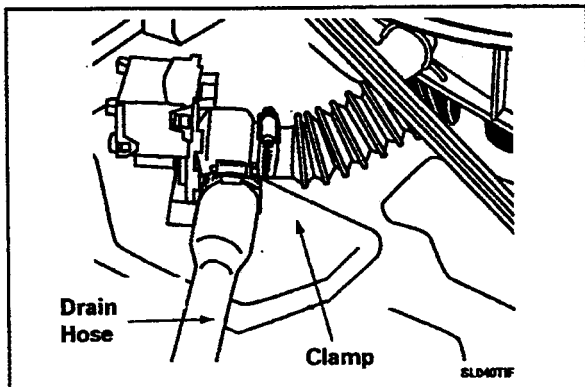

Figure 2-35
4. With access into the machine compartment, spread a towel under the connection of the drain hose to the pump. Loosen the clamp and remove the drain hose (*Figure 2-35*).